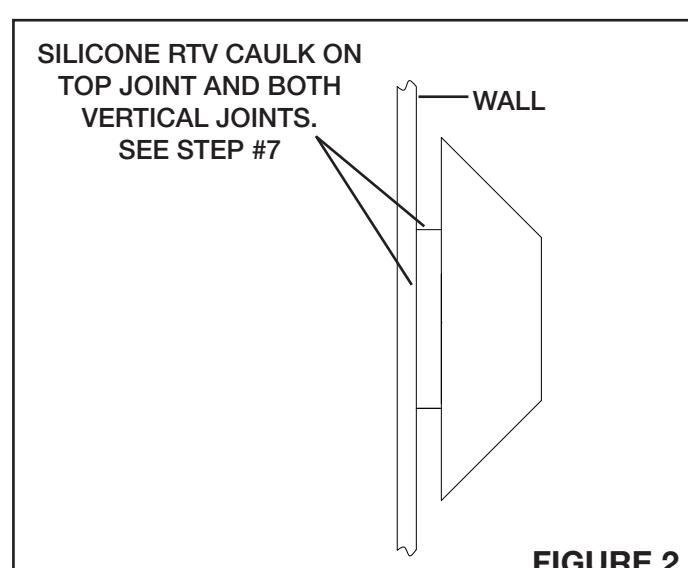

FIGURE 2
- With silicone RTV caulk, caulk completely around the housing/wall joint on the top and both sides. Caulk should not be applied to the bottom joint (see figure 2).